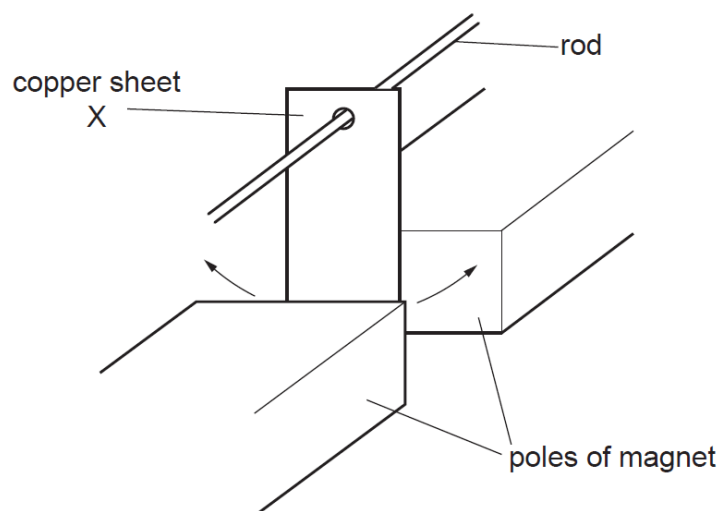

Fig. 5.3
- (c) A thin copper sheet X is supported on a rigid rod so that it hangs between the poles of a magnet as shown in Fig. 5.3.